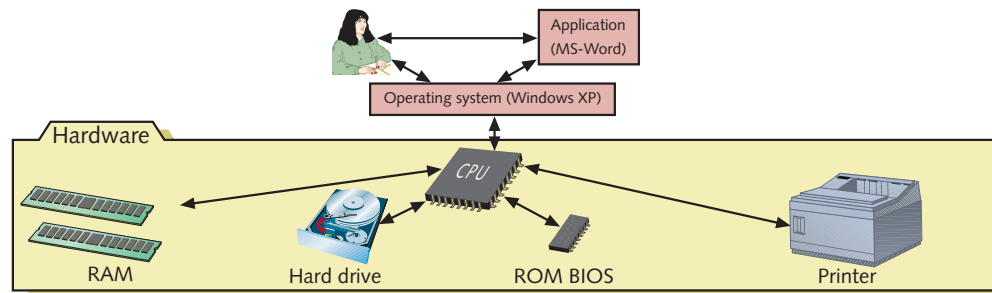

Figure 2-1 Users and applications depend on the OS to relate to all hardware components
An **operating system (OS)** is software that controls a computer. It manages hardware, runs applications, provides an interface for users, and stores, retrieves, and manipulates files. In general, an operating system acts as the middleman between applications and hardware (see Figure 2-1).